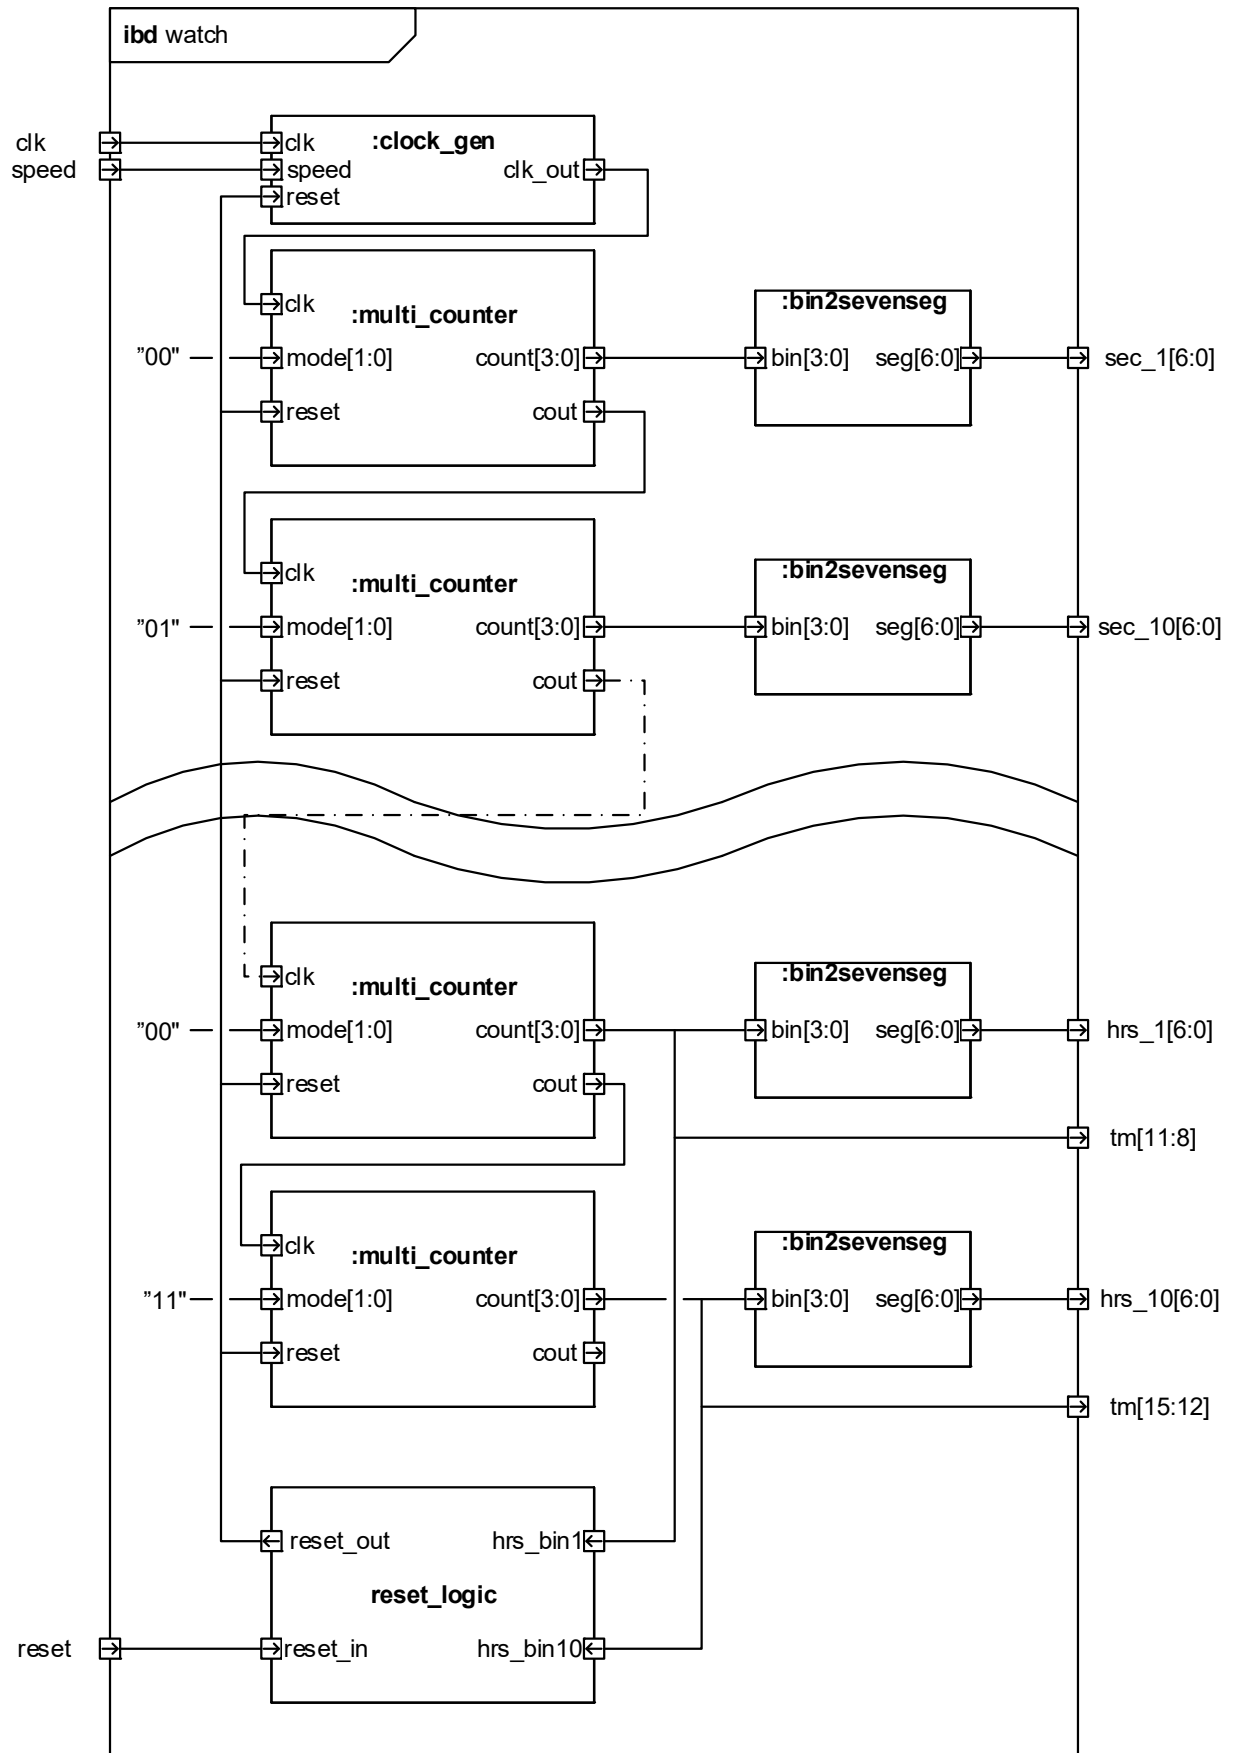

Fig. 3: Watch IBD (minutes not shown).
- a) Create a new design entity, watch, move the design from step 2 into it and extend the design to 6 cascade coupled instances of the `multi_counter` component, so it will end up as a 6 digit 24 hours clock (eg.. 23 : 59 : 59). Refer to the figure 3 for design inspiration. Use the “count” values, from the hour counters, to control when to reset all counters to 00:00:00 (when they hit 24).